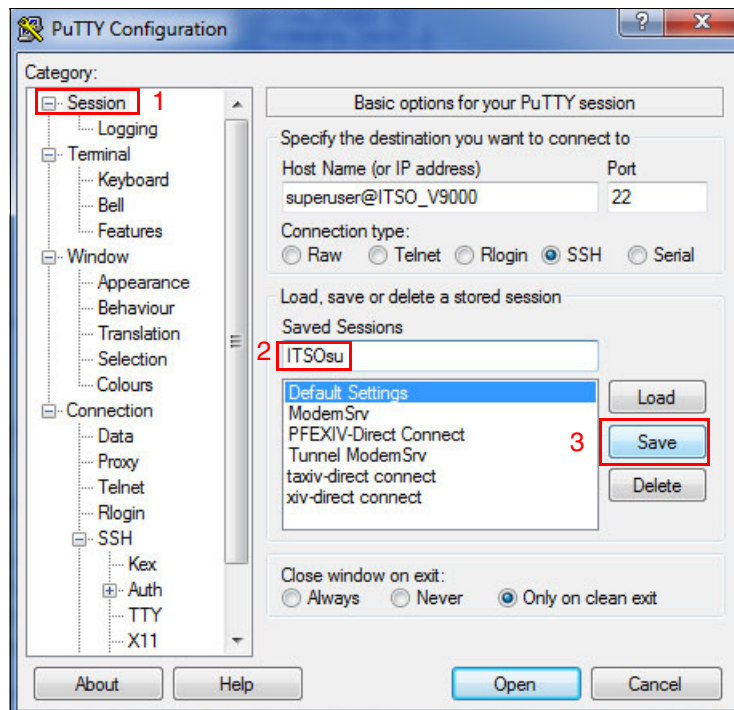

Figure 7-22 Save PuTTY session for use with plink
3. Complete saving the session (Figure 7-22) by returning to the Session Panel (1), providing a session name (2), and clicking **Save** (3).